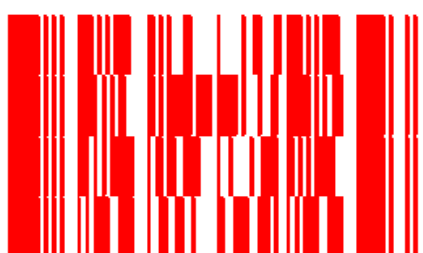
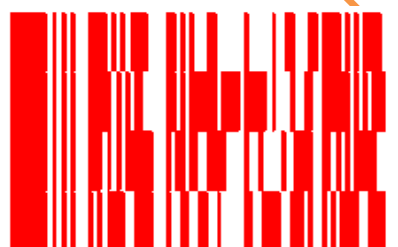

Figure 4-16 PDF417 barcode
Figure 4-17 Compressing PDF417 barcode
PDF is the abbreviation of the first three letters of the English word Portable Data File, which means "portable data file." Figure 4-16 is an example of a PDF417 code and Figure 4-17 is an example of a compressed PDF417 code.
**ank:** Refers to the number of rows and columns of the PDF417 barcode. The barcode shown in Figure 4-17 is 4 rows and 4 columns.